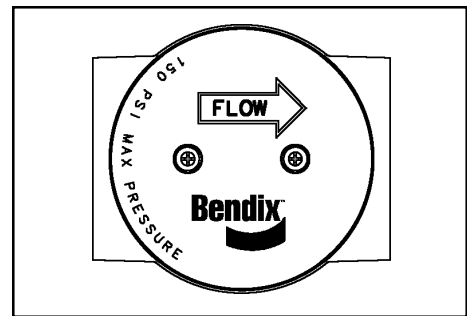

FIGURE 4 - TOP VIEW - SHOWS AIR FLOW
3. The Head of the PuraGuard has an arrow symbol showing the direction that the air must be supplied into the Head (see Figure 4). Align the PuraGuard correctly and then insert the four bolts through the mounting bracket holes into the PuraGuard head. Tighten to approximately 15 ft. lbs.
6. Be sure that there is sufficient room to attach hoses to the PuraGuard. Hoses must be installed without tight turns that might cause air flow restrictions. Note: Check that the hose attachment agrees with the air flow arrow symbol (see Figure 4).